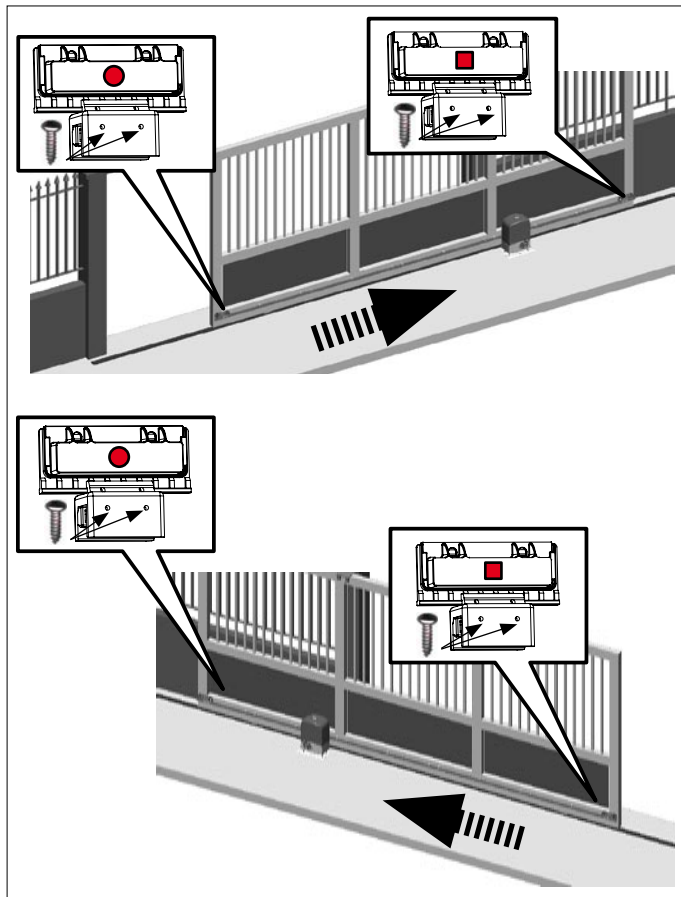

Fig.18
**Important: For correct functioning of the operator, the magnet with the circle must be positioned to the left of the motor and, vice versa, the magnet with the square must be positioned to the right of the motor (SEE FIGURE 18)**
- 1) Assemble the two magnets as indicated in figure 18.